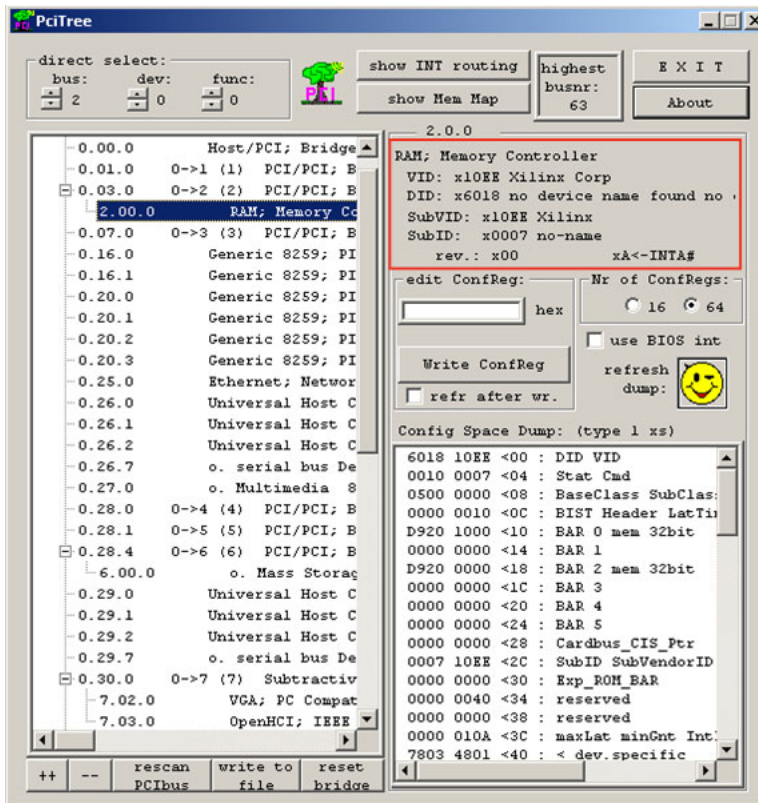

Figure 1-32: Locate the Xilinx Device
13. Locate the Xilinx device as shown in figure Figure 1-32.